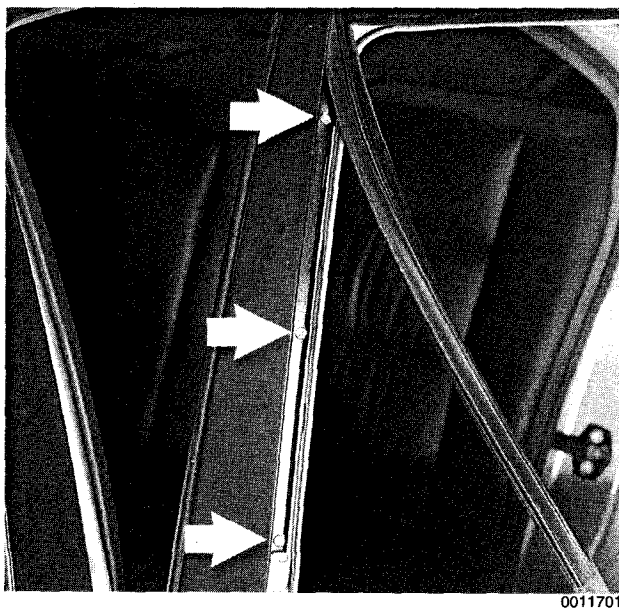

Fig. 6. Trim cover mounting screws (arrows). To remove cover, slide up and off door.
2. Pull out rubber guide at front of window frame. Remove three screws and pull off exterior trim cover. See Fig. 6.